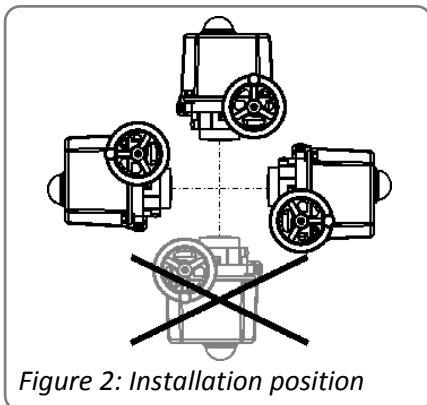

Figure 2: Installation position
- Any installation position is allowed except "cover pointing downwards" (figure 2).